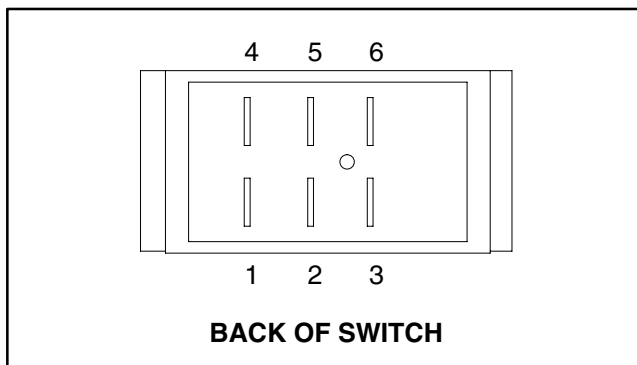

Figure 25
2. The switch terminals are marked as shown in Figure 25. In the INCREASE or boom raise position, continuity should exist between terminals 2 and 3 and also between terminals 5 and 6. In the neutral, center position, there should be no continuity between any switch terminals. In the DECREASE or boom lower position, continuity should exist between terminals 2 and 1 and also between terminals 5 and 4.